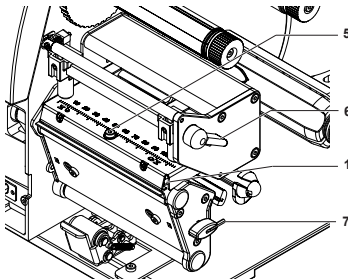

Fig. 2
2. Swing lever (6) in the position shown in fig. 2. The printhead assembly is locked in this position.
3. Loosen the printhead locking screw (5). Use the allen key (7).
4. Swing the lever (6) counterclockwise until it stops. So you can unlock and lift the printhead assembly.
5. Remove the printhead (1) from the printhead carriage.